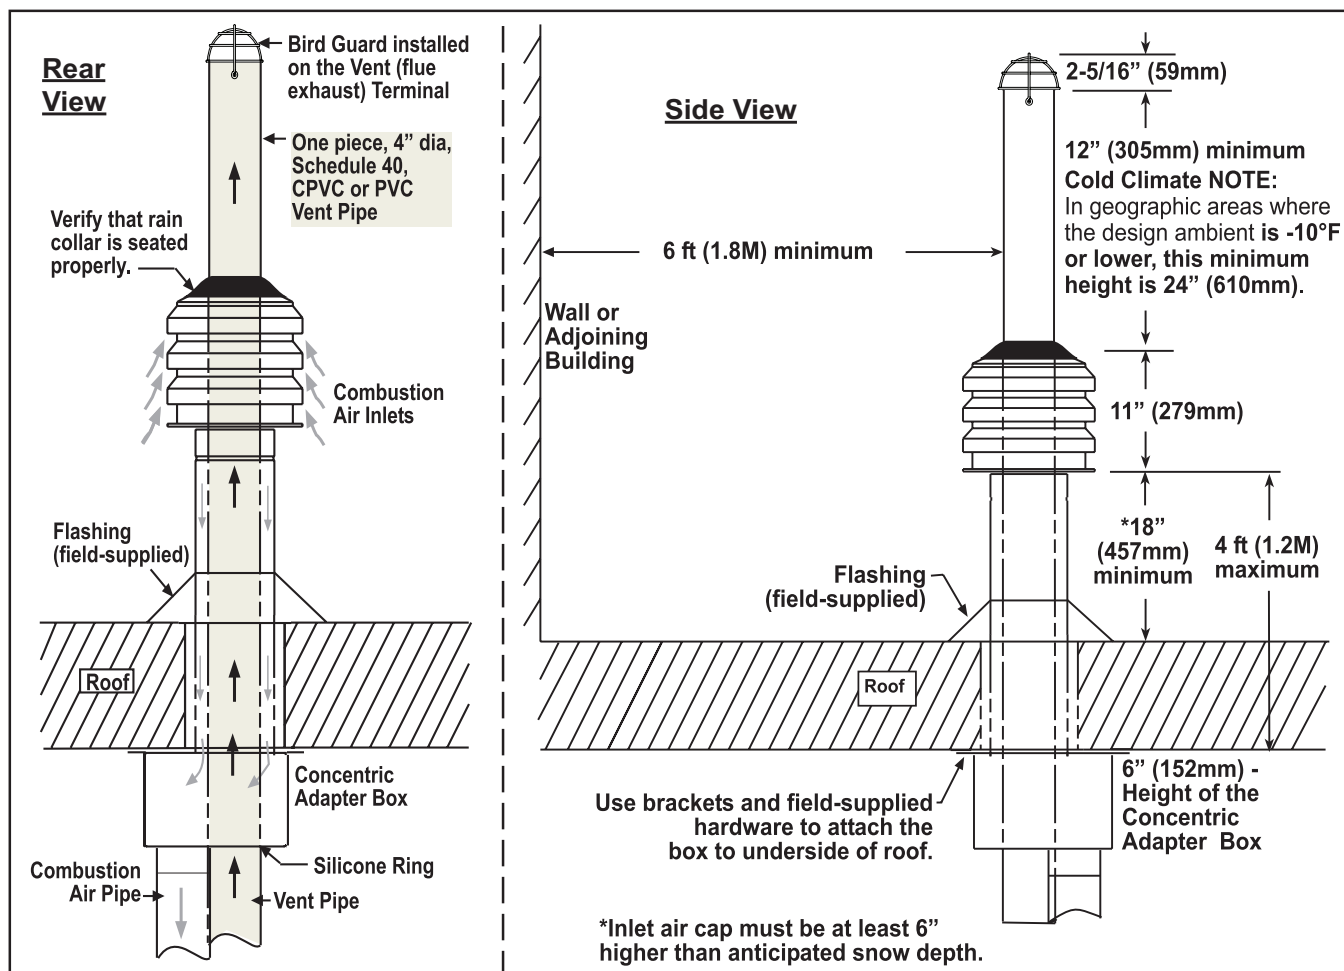

Figure 14. Option CC2 Installation
- b. Select location away from fresh air intakes, allowing space for concentric adapter box inside. Vent terminal must be located away from adjacent buildings as shown in Figure 14.
5. Secure concentric adapter box to underside of roof (see Figure 14):
9. Verify compliance with Figure 14 and with all specifications listed in VENTING AND COMBUSTION AIR REQUIREMENTS and Halogenated Hydrocarbons sections.